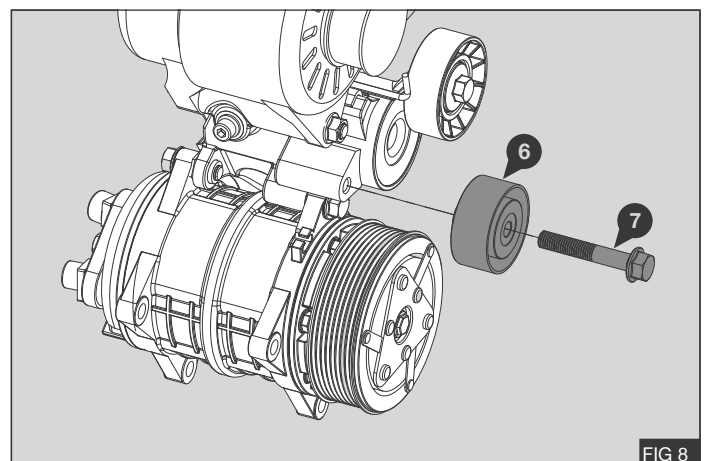

FIG 8
1. Secure the idle pulley (4) to the bracket (1) using bolt (7) - Fig 8
2. Torque bolt (7) to 58 Nm / 43lbft.